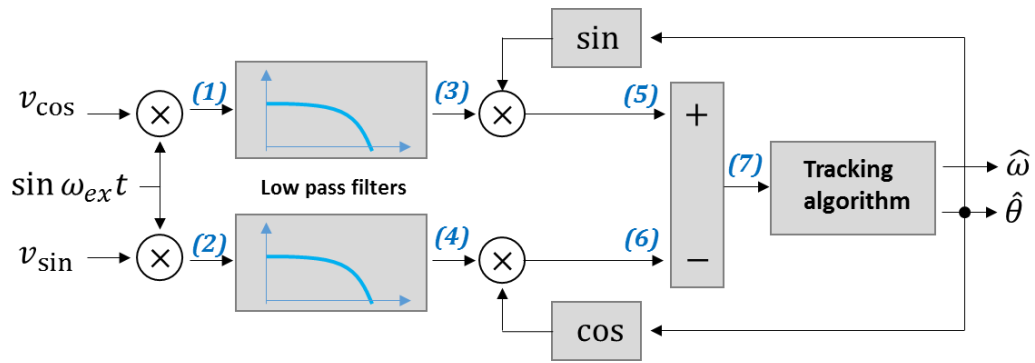

Figure 2
Figure 2 illustrates a block diagram of an algorithm suitable for tracking speed and angle from the resolver signals of Figure 1.b. Write an expression for signals (1), (2), (3), (4), (5), (6) and (7) as identified in Figure 2.
- d. With the help of a block diagram, describe a suitable tracking algorithm to be used in the block diagram of Figure 2 and write an expression for the transfer function between the input (7) and the two outputs $\hat{\omega}$ and $\hat{\theta}$.